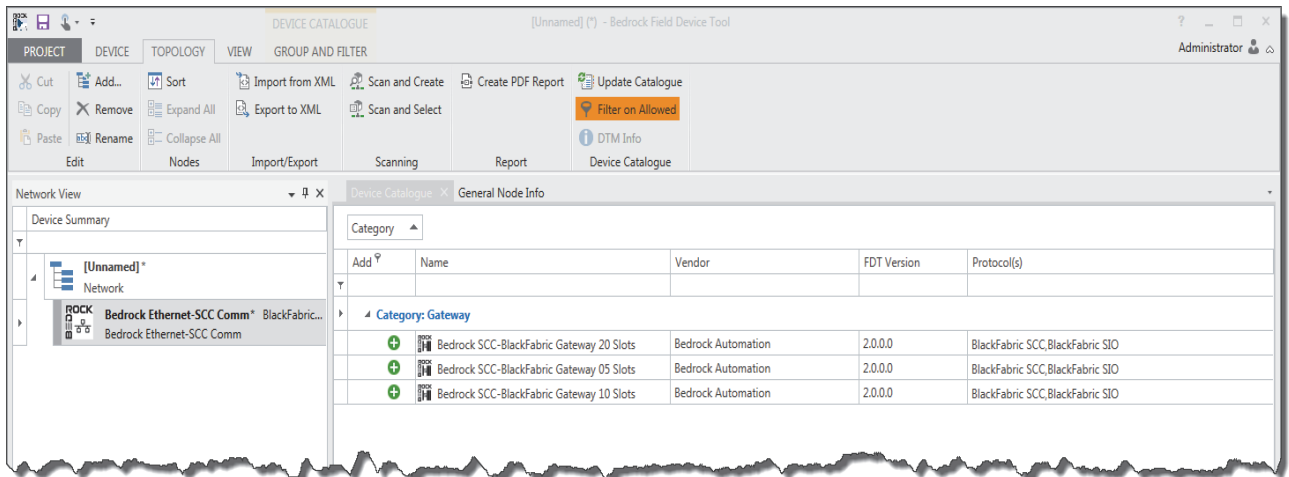

Figure 11-5 SCC-Black Fabric Gateway DTMs
6. Click OK. A list of available SCC-BlackFabric gateway DTMs will be displayed as shown in Figure 11-5.